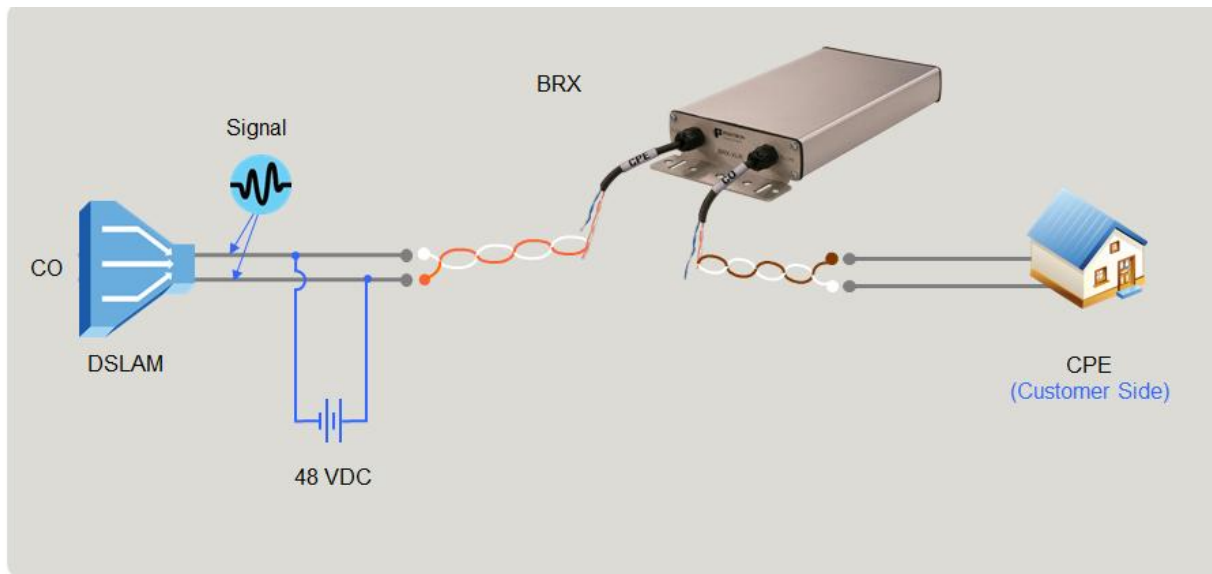

Figure 18: Using Sealing Current to power the BRX-XLR
The BRX-XLR needs to be powered from the POTS sealing current (-48V) originating from the DSLAM or the Central Office (CO). This is illustrated by Figure 18 below: